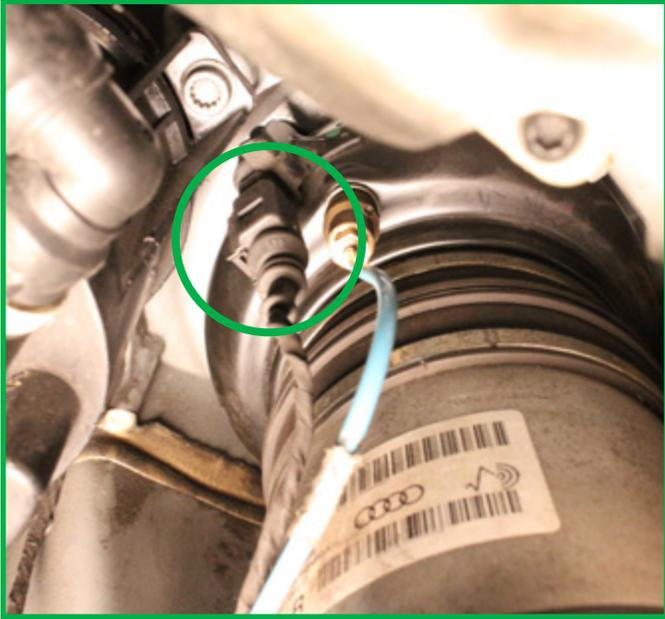

FIGURE 4
4. Locate and disconnect the electrical connector. (Figures 4, 5)